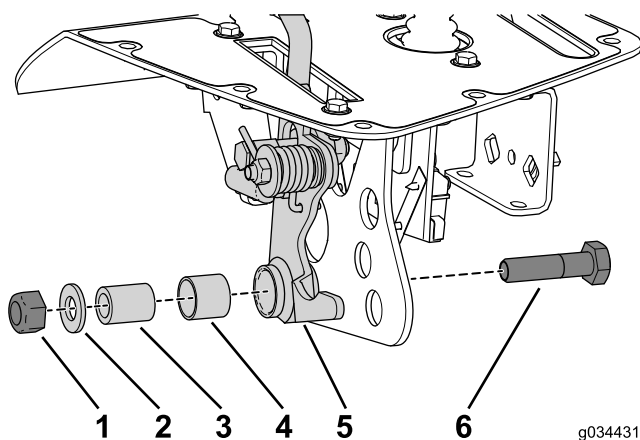

Figure 22
2. Use the locknut, flat washer, spacer tube, and bolt that you removed earlier to secure the handle assembly to the bracket (Figure 22).